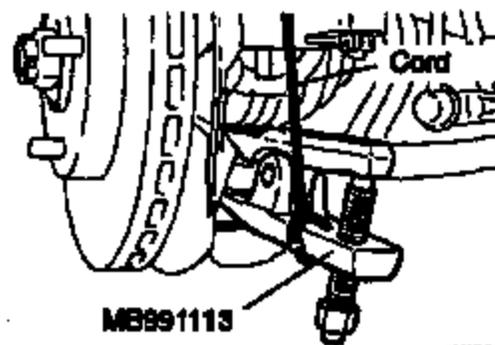

Figure 2
3. Using special tool MB991113, separate the ball joint from steering knuckle (Figure 2).